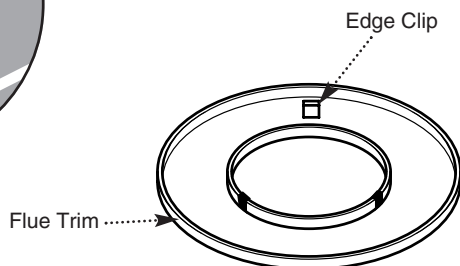

Fig. 58a
b) Take the three edge clips from the kit and fit them equi-spaced onto the inner flange of the trim (Fig. 58a).